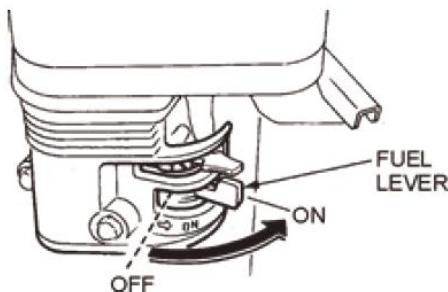

FIG.6
- 9.1 Place the engine fuel valve lever (FIG. 6) to the "ON" position.